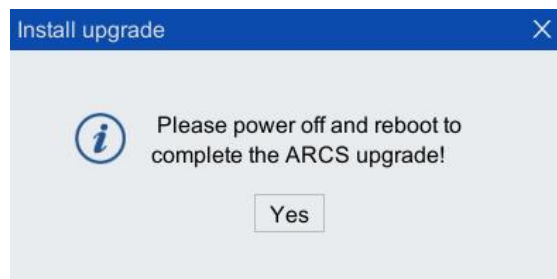

Figure 8-44 "Please power off and restart to complete the ARCS upgrade!" prompt box
Step4. When "Please power off and reboot to complete the ARCS upgrade!" dialog box in Figure 8-44 pops up, click <Yes> button to restart the control cabinet to complete the ARCS upgrade.